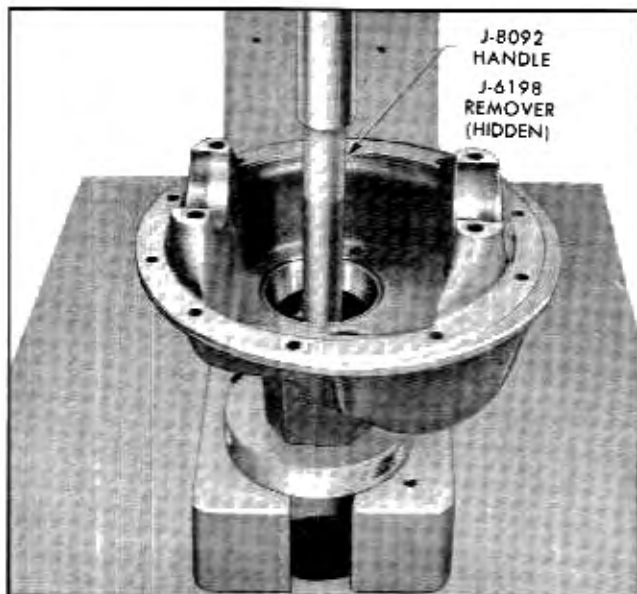

Fig. 4-28 Removing Front Pinion Bearing Outer Race With Remover J-6198 and Drive Handle J-8092
11. Wash front bearing inner race in cleaning fluid and examine for damaged rollers or pitted inner race. Clean outer race in carrier and examine for failure. Place inner race in outer race and turn while pressing. If bearing turns smoothly and has no visual defects, do not remove outer race from carrier. If bearing is to be replaced, press outer race from carrier using Remover J-6198 and Drive Handle J-8092 (Fig. 4-28).